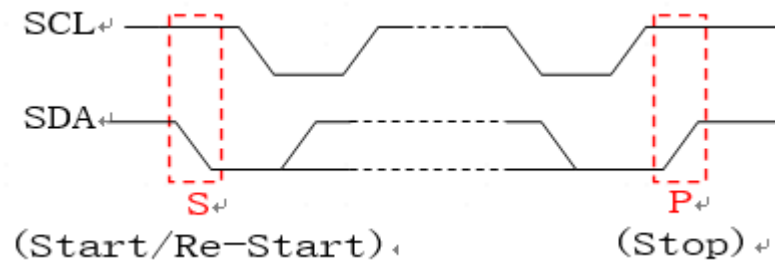

Figure 8 Diagram of the start and end signals on the I2C bus
Termination Signal (P): The change of the SDA line from low to high during the period when the SCL line is high, as shown in Figure 8;